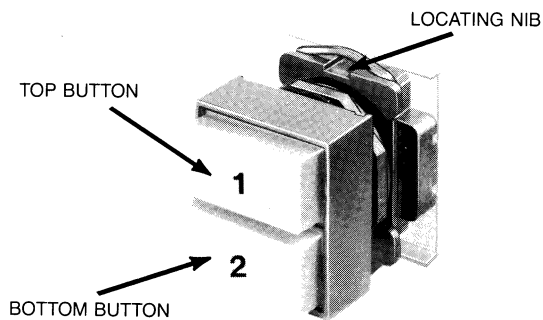

FIGURE 2
- d. Line up the button cover with the top button of the operator (with the nib of the operator UP) as shown in Figure 2 and push together until the cover is securely held by the operator.